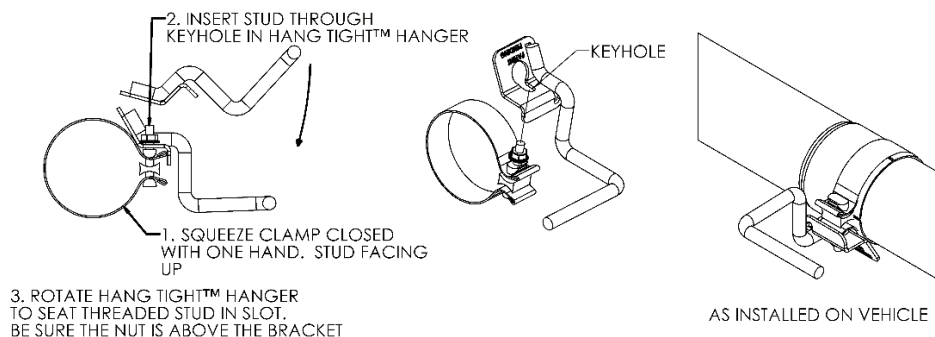

Figure 1 (Hang Tight™ Hanger not exactly as shown).
2. Install the expanded/reduced (depending on engine size) end of the **Extension Pipe** over the factory exhaust system behind the “Y” pipe and install **Muffler** onto **Extension Pipe** with the **Hang Tight™ Hanger** and **3.0” Clamp** (see figure 1 for Hang Tight instructions) and install into the factory rubber insulator.
3. Cut the **Extension Pipe** to the required length. Install the expanded/reduced (depending on engine size) end of the **Extension Pipe** over the factory exhaust system behind the “Y” pipe and install **Muffler** onto **Extension Pipe** with the **Hang Tight™ Hanger** and **3.0” Clamp** (see figure 1 for Hang Tight instructions) and install into the factory rubber insulator.